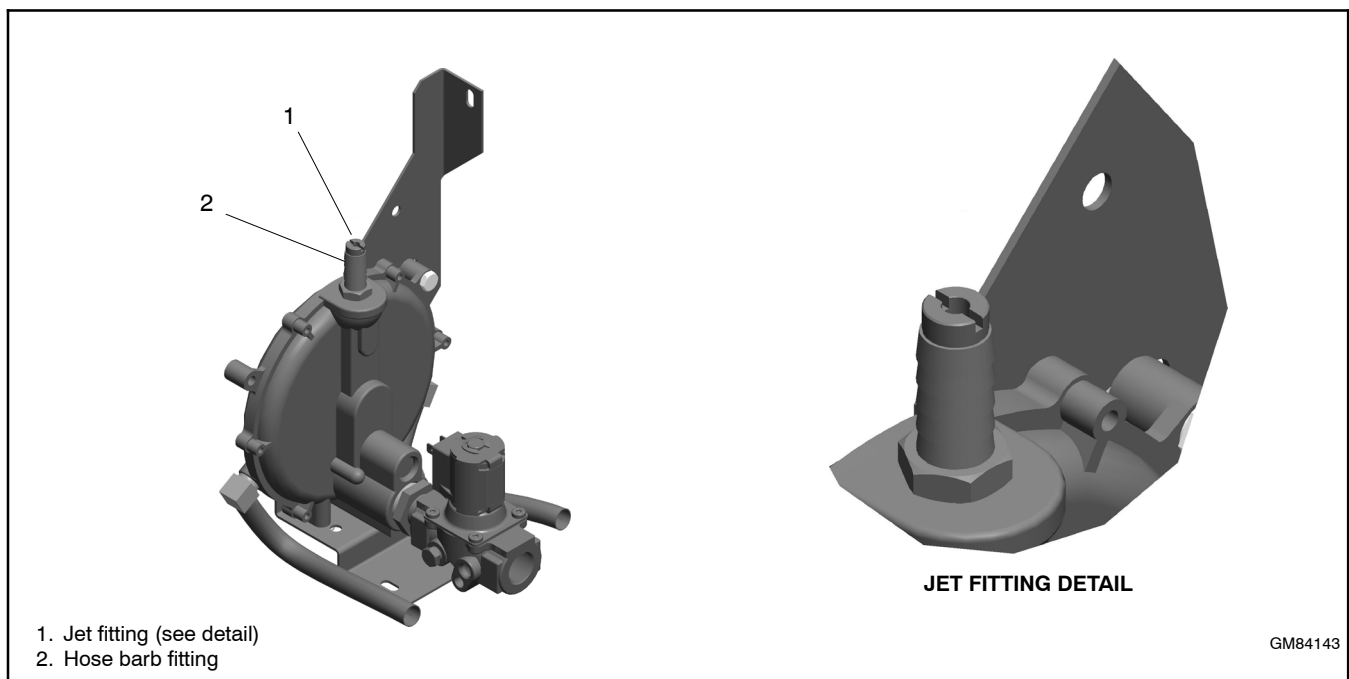

Figure 3 14RESA/RESAL Fuel System Showing Jet Fittings
6. Use a straight-blade screwdriver to remove the NG fuel jet from the hose fitting. See Figure 3.